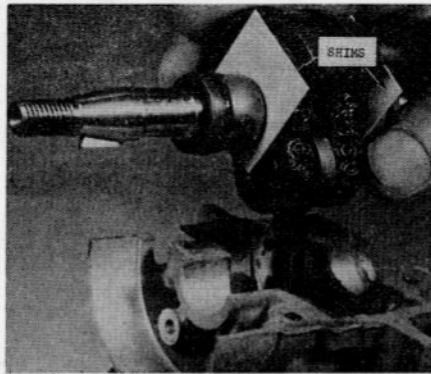

Fig. HL243—View showing placement of shims (Fig. HL242) between thrust washers (15—Fig. HL241) and bearings (14) for correct crankshaft assembly. Refer to text.
Fig. HL242—Shims used in crankshaft assembly may be made by cutting 0.015 inch thick plastic, metal or other suitable material in the outline shown above. Refer to Fig. HL243 and text.
Bearings, seals and thrust washers must be positioned correctly on crankshaft before final assembly. Use the following procedure for crankshaft installation: With piston assembly installed on rod, insert piston in cylinder being sure piston ring is aligned on locating pin. Install thrust washers (15—Fig. HL241), bearings (14), seal spacers (13) and seals (12) on crankshaft. Place 0.015 inch thick shims shown in Fig. HL242 between thrust washers and bearings as shown in Fig. HL243.